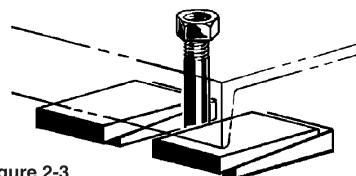

Figure 2-3
- a. Place shims close to the foundation bolts. (Refer to Figure 2-3)